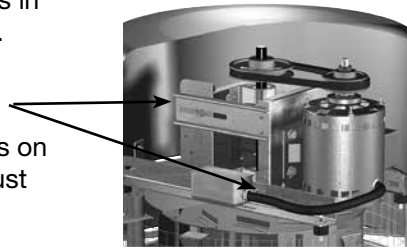

Figure 11
- Belt tension can be adjusted by loosening four fasteners on the drive frame, see Figure 11. The motor plate slides on the slotted adjusting arms and drive frame angles in the same manner.